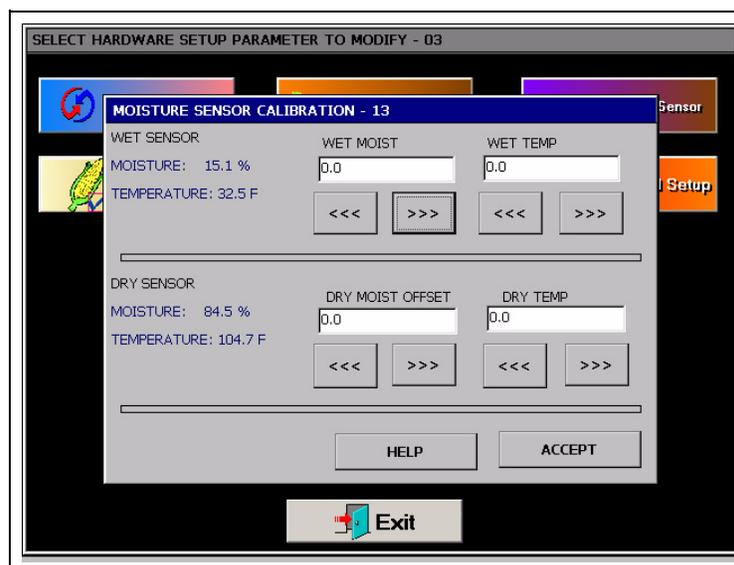

Figure 5K
5. **Calibrate Moisture Sensor:** Calibrate Moisture Sensor There are two (2) moisture/temperature sensors per dryer - one for incoming grain (wet) and another for outgoing (dry). Each device has one moisture and one temperature sensor included. (See Figure 5K.)